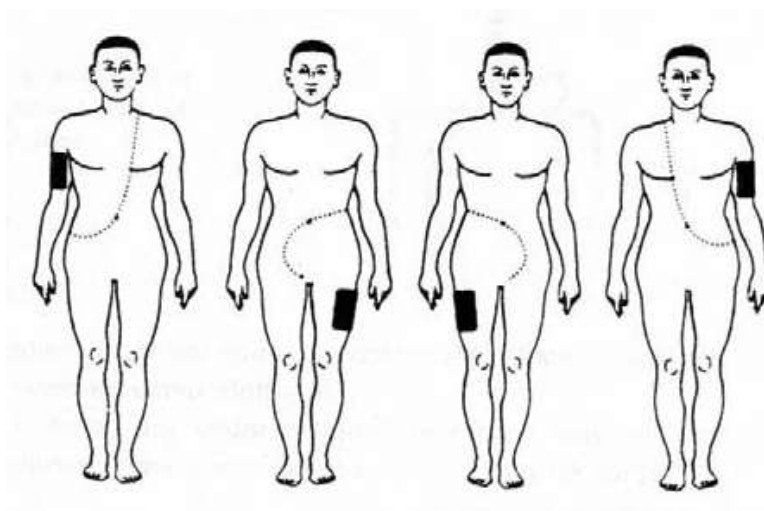

Figure 1 - The proper areas for fastening the neutral electrode
- ◆ Put Neutral electrode in such a manner producing sufficient contact surface with the patient skin (refer to Figure 1). It may cause burning If contact surface is small because the current densities enter the contact sites are very high.